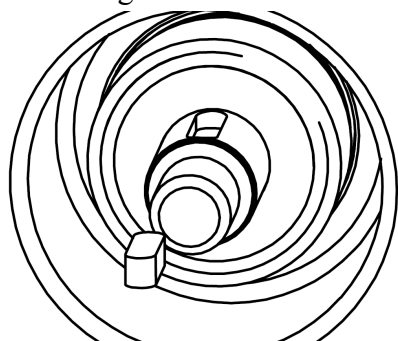

Figure 13
5. Insert key into the keyway in the stub shaft, figure 13.